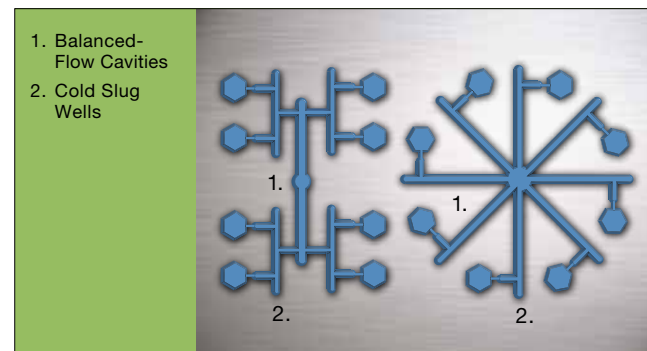

Figure 3: Runner Systems with Balanced-flow Cavity Layouts and Cold Slug Wells
**COLD SLUG WELLS** During injection, the initial surge of material is generally cool since it has remained dormant in the nozzle while the previous shot was being ejected from the mold. To prevent this cold material from entering the cavity and causing a visual defect, cold slug wells or runoffs should be incorporated into the runner system before material is allowed to enter the cavities. Properly sized runner systems designed for balanced flow which incorporate cold slug wells are shown in Figure 3.